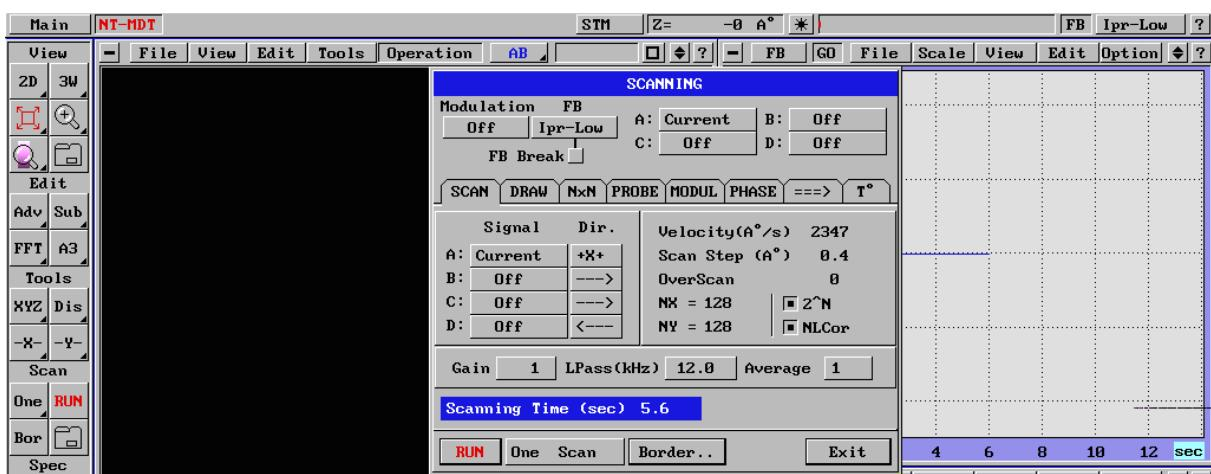

Fig. 75
Velocity - max (Fig. 75)
Step (A) - 0.2 - 0.5 (Fig. 75)
NX xNY - 128 x 128 (Fig. 75)
NL Corr - on (Fig. 75)
A: Scan dir - +X+ (Fig. 75)
Gain = 1 (Fig. 75)
Lpass(kHz)=12 (Fig. 75)
Average = 1 (Fig. 75)